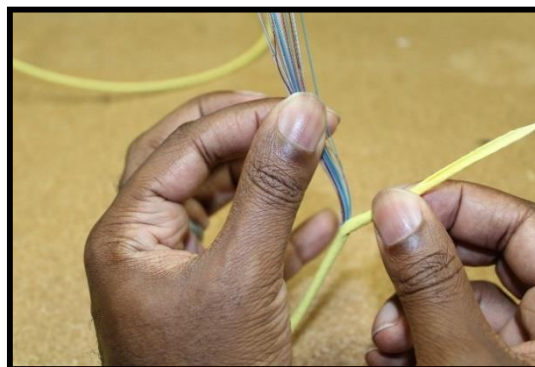

Figure 1
5.2.1 Refer to **SRP SP-F04-045** for detailed techniques on how to remove the PVDF jacket. **(See Fig. 1)**